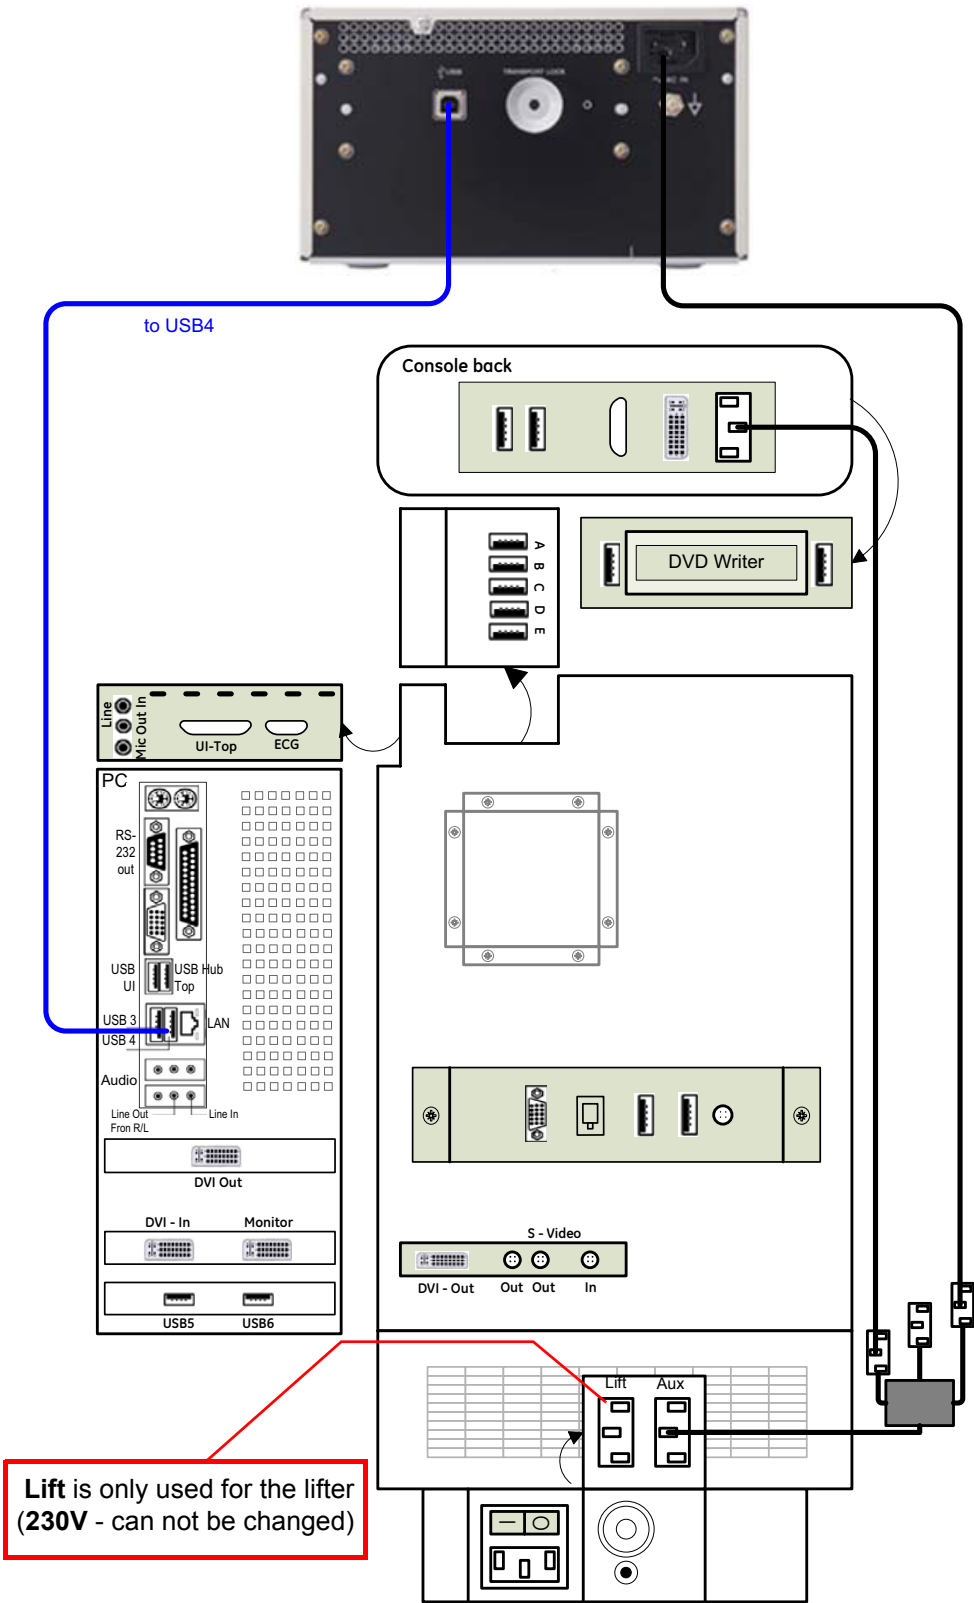

Figure 3-14 Color Printer connection (BT08: DFI Dual-core PC-Motherboard installed)
- if “**DFI Dual-core**” PC-Motherboard is installed, see: Figure 3-14 on page 3-20.